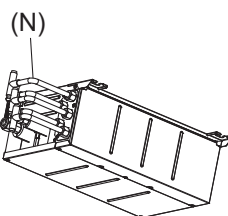

Fig. 8-7
- ▶ To divide the wirings of each terminal block into 2 branches outside the Branch box, use 2-branch wiring conduits (N). (Fig. 8-7)